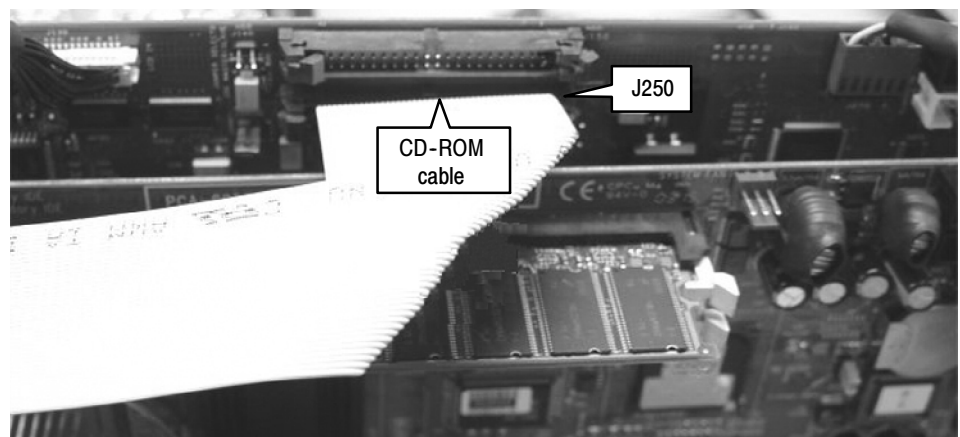

Figure 12: Connecting the CD-ROM cable
7. Connect the CD-ROM cable to the I/O board at J250, marked “CD-ROM”. Be sure the cable retainer latches on both sides of the connector (see Figure 12).